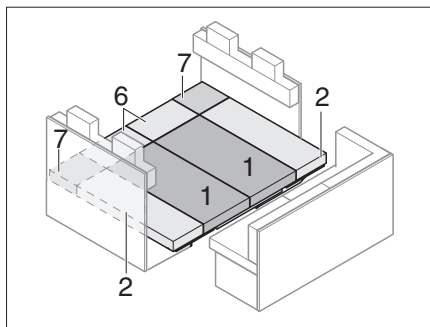

Fig. 195 After conversion
- Lay on the seat, backrest and additional cushions as shown in Fig. 195.